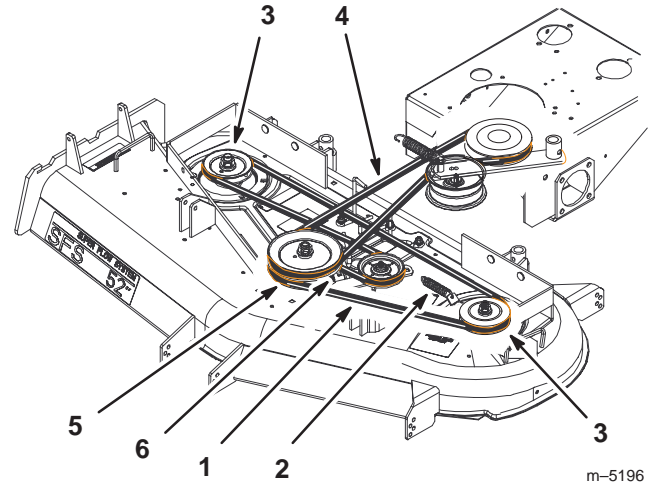

Figure 70
11. Adjust deck belt guide an 1/8 in. (3 mm) from belt (Fig. 70).
5. Disconnect the idler arm spring to relieve tension on the idler arm and idler pulley, then remove the worn deck belt (Fig. 70).
6. Install the new deck belt around the two outside spindle pulleys, the idler pulley, and in the lower groove of the center spindle pulley (Fig. 70).
7. Connect the idler arm spring (Fig. 70).